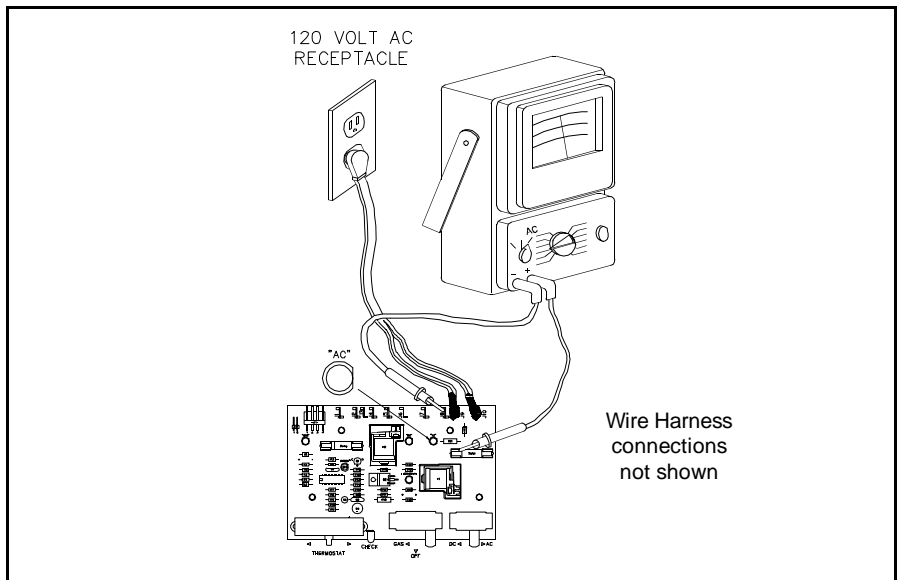

Figure 4.48 5 Amp Fuse Check
12. Check the 5 Amp fuse. 120 Volts must be read between the output end of the fuse and neutral as shown in Figure 4.48. Use J-8 or J-9 (NOT J-10) for the neutral probe point.
- B. If 120 Volts is measured, the L.E.D. shown in Figure 4.48 must be illuminated.
- C. If L.E.D. (Figure 4.48) is not illuminated, replace the PC Board (Review steps 1 and 2 first).